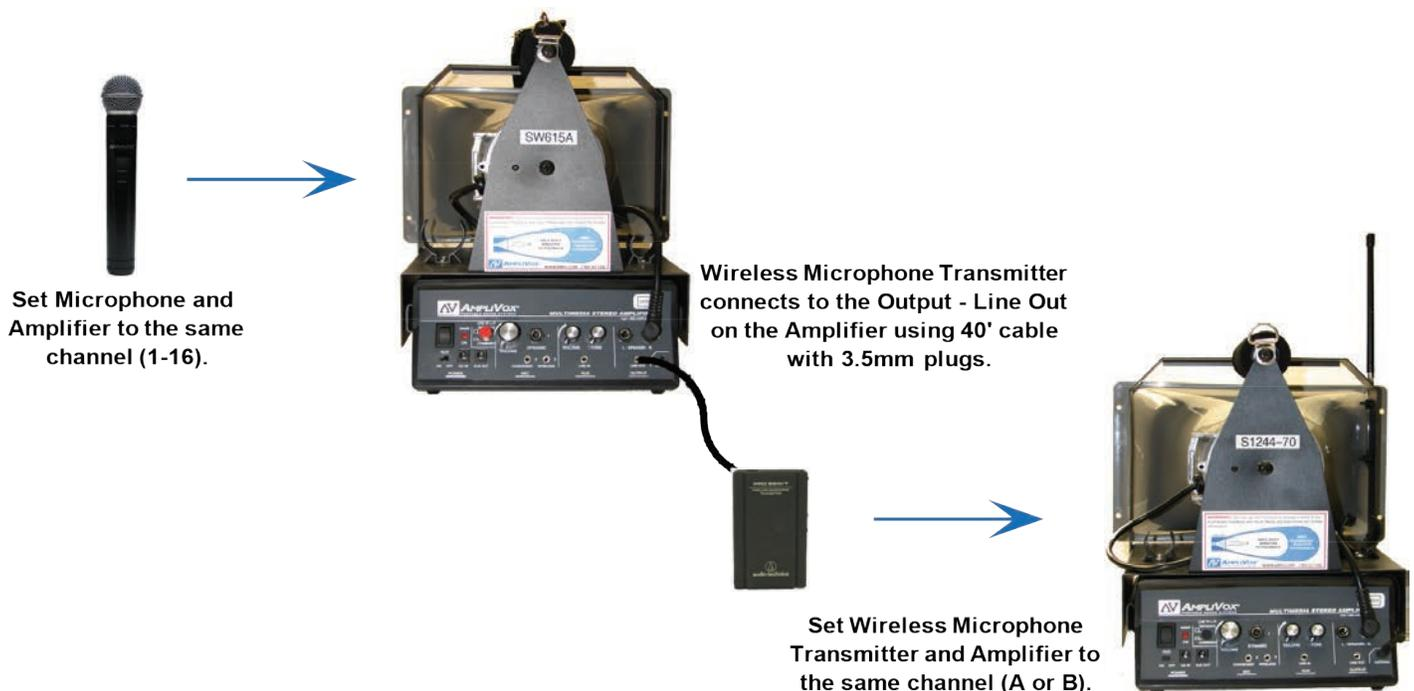

Figure 1:
5. To utilize the S1244-70 (**SECONDARY**) Amplifier, connect the Wireless Microphone Transmitter to the “LINE OUT” jack on the SW615A Amplifier using the 40' cable with 3.5mm plugs. Make sure the Wireless Transmitter and S1244-70 Amplifier Internal Wireless Receiver are set to the same channel (**A or B**). Turn on the S1244-70 Amplifier and adjust the Volume on the left side. **(See Figure 1)**